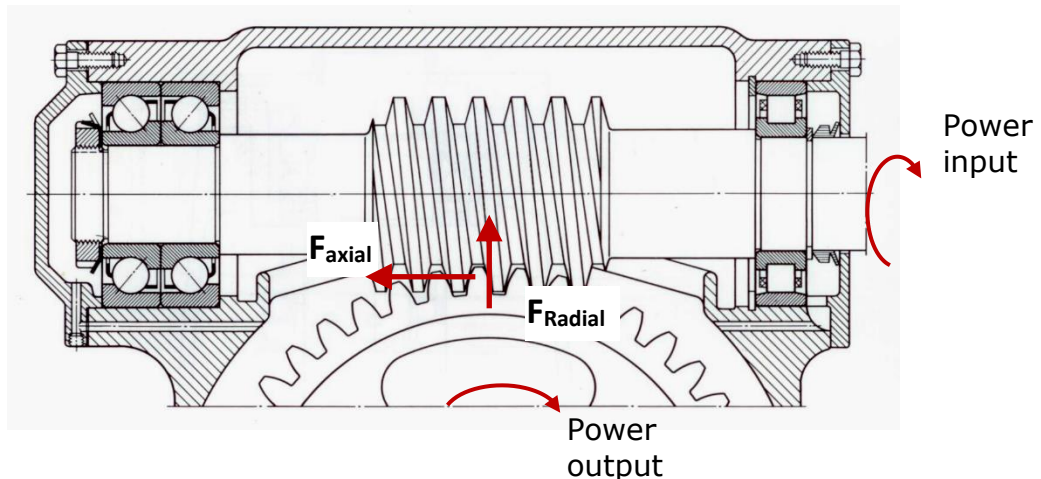

Figure Q1-1
- (c) Figure Q1-1 shows the GA drawing of a worm gear unit. The radial (F_{radial}) and axial (F_{axial}) forces acted at the meshing points between the worm and gear are indicated in the drawing.
- (d) As shown in Figure Q1-1, the power input of the worm gear unit is $P = 25$ kW with worm shaft rotating at $n=1,950$ rpm. The radial force is $F_{radial} = 2,500$ N at the middle of the worm shaft span. The span of the worm shaft is $L=200$ mm.